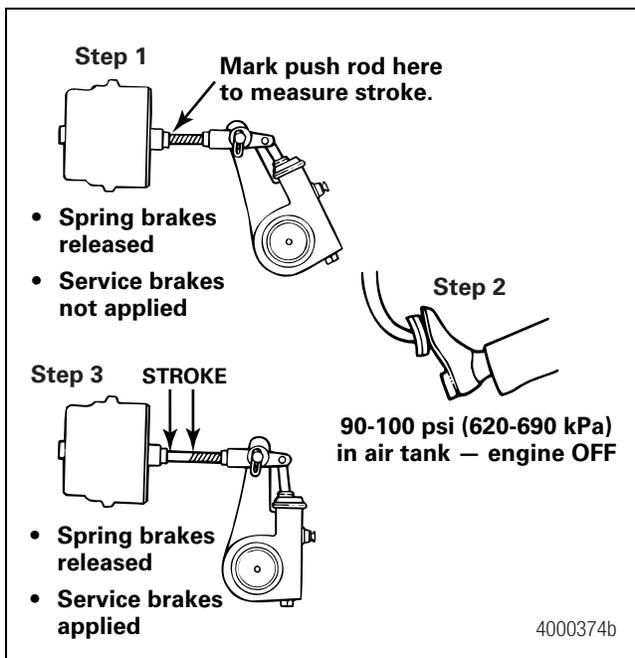

Figure 6.4
- With the brakes released, mark the push rod where it exits the chamber. Measure and record the distance. Have another person apply and hold the brakes on full application. Figure 6.4. Hold the ruler parallel to the push rod and measure as carefully as possible. A measurement error can affect CVSA re-adjustment limits. CVSA states that “any brake 1/4-inch or more past the re-adjustment limit, or any two brakes less than 1/4-inch beyond the re-adjustment limit, will be cause for rejection.”
- Measure the push rod travel or adjusted chamber stroke from where the push rod exits the brake chamber to your mark on the push rod. Measure and record the distance. Figure 6.4.